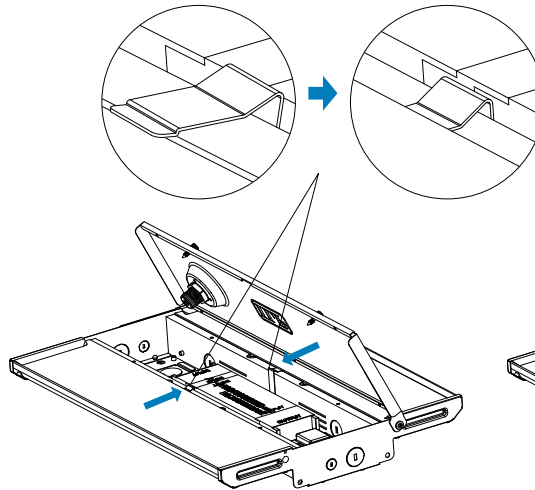

Figure 15
- Press and pull outward on the metal clips securing the diffusers. Release the clips when the diffusers are free with clips underneath them (Figure 15).